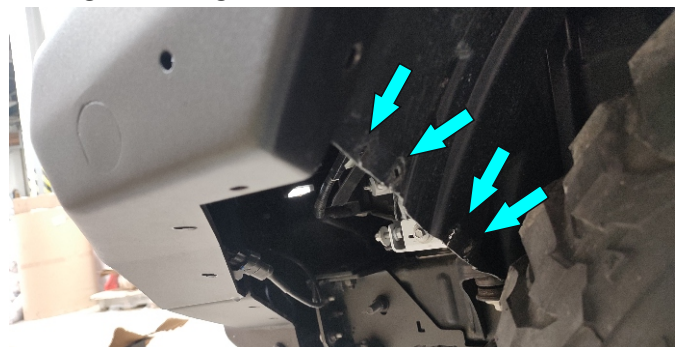

Fig.104
98. Remove the flap. Drill holes in plastic fender (fig.104) and cut extra parts of the inner fender on each side of the vehicle (fig.103).